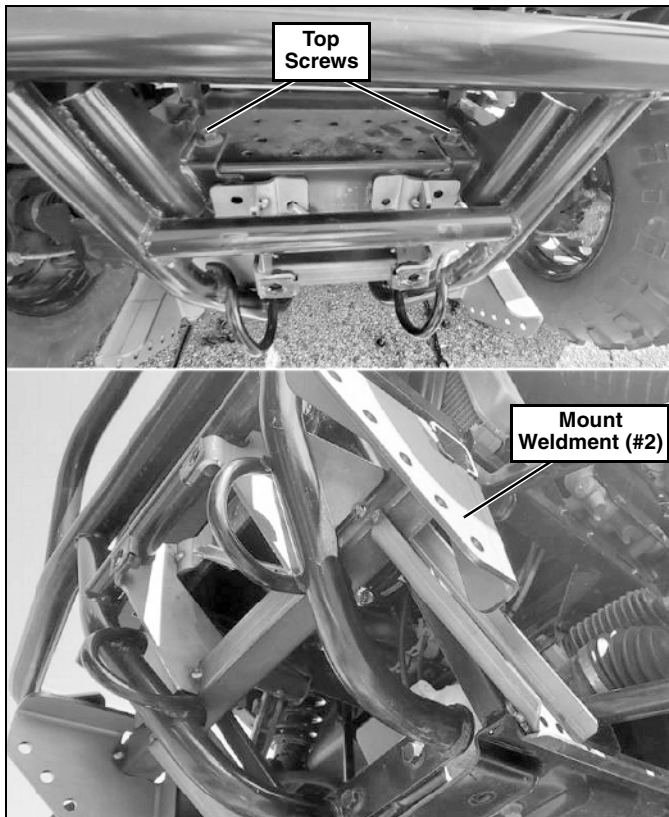

Figure 4
- The Mount Weldment (#2) will fit behind and around the Brush Guard, but both will need to be placed onto the UTV at the same time. While the Brush Guard is off, slide the Mount Weldment (#2) into position on the brush guard. Slide the Mount Weldment (#2) and Brush Guard back in place. Install the two top screws and nuts for the Brush Guard to briefly secure the parts in position. (See Figure 4.)